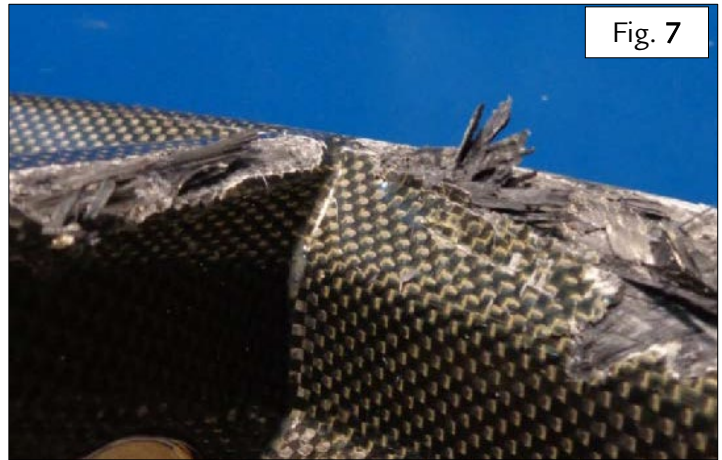

Fig. 7
- Damage to rim and spoke of wheel (Fig.7);